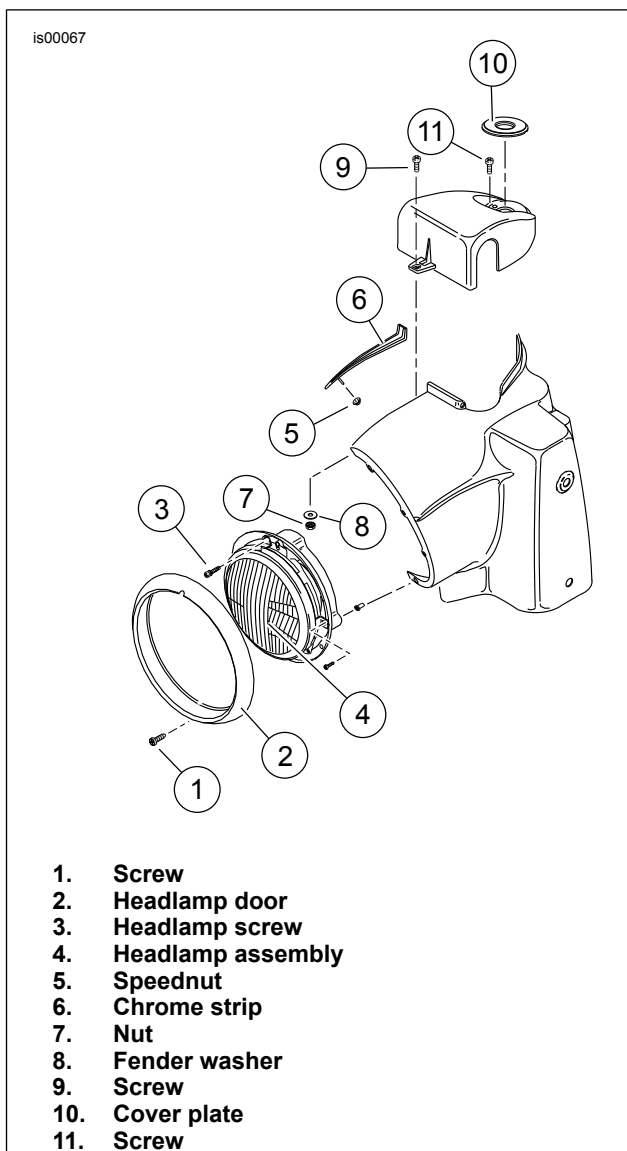

Figure 5. Nacelle and Handlebar Shroud
3. See Figure 5. Remove screw (1), headlamp door (chrome ring) (2), and headlamp screws (3). Retain screws.
4. Separate electrical connector and remove headlamp assembly (4).
5. Remove speednut (5) that holds chrome trim strip (6) in place and remove trim.
6. Carefully pry off fork lock cover plate (1) on top of nacelle handlebar shroud to access screws that hold cover in place.
7. Under plate, remove 2 screws (11) that hold shroud to fork lock.
8. Remove nut (7) that secures the handlebar shroud and remove shroud, screw (9) and fender washer (8).